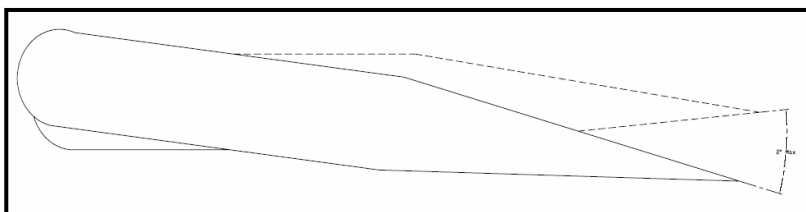

Figure 9: Elevator Freeplay - Down
- Slowly remove hands allowing the elevator to center by itself (See Figure 9).